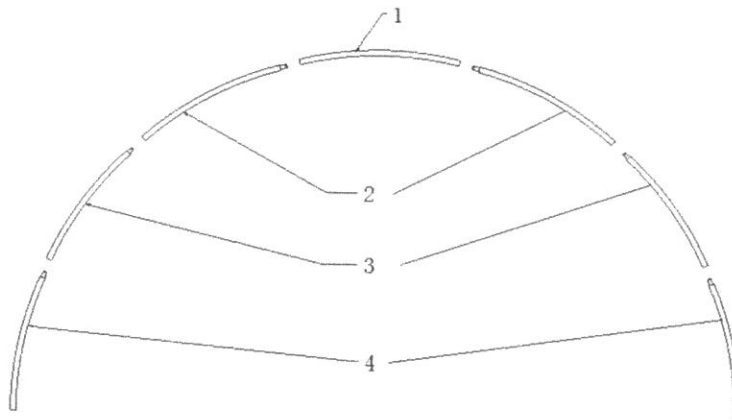
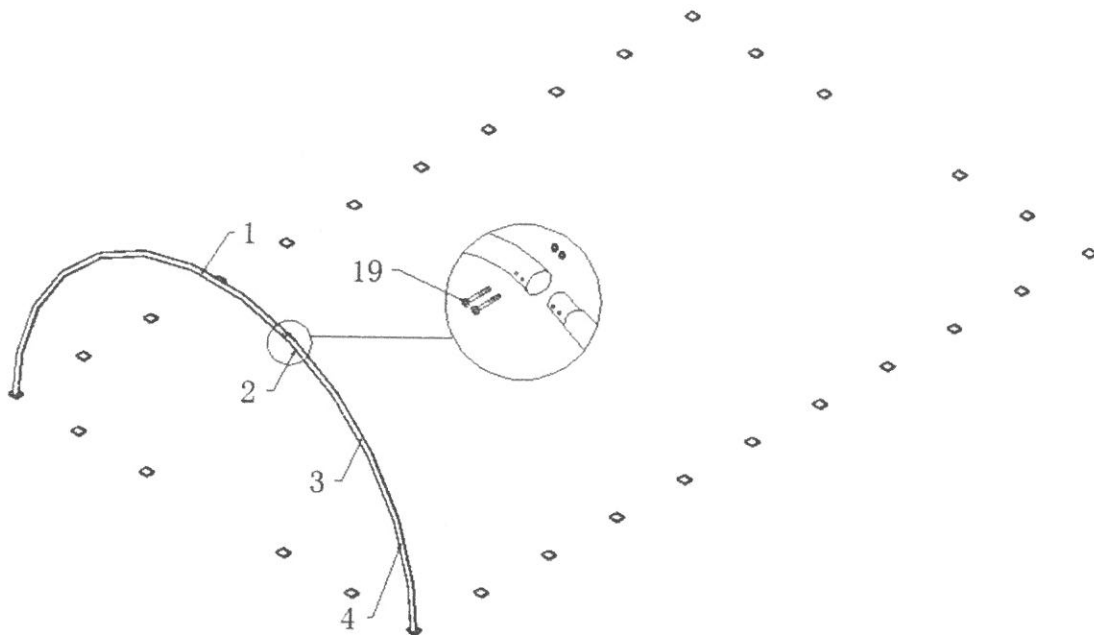

Figure 3
Figure 4
1. (Part No.  $1*1+No.2*2+No.3*2+No.4*2$  ) As **Figure 3** and **Figure 4** shown to find one piece of Roof bent tube (No.1), two pieces of Upper bent tube for front and rear door(No. 2A), two pieces of Sidewall tube(No.3), two pieces of Lower bent tube (No. 4) . Connect them by using Bolt M10x100 (No. 19), which makes the first group of front door arch frame.Put the first group of arch frame into the base plates like the **Figure 4** shows.